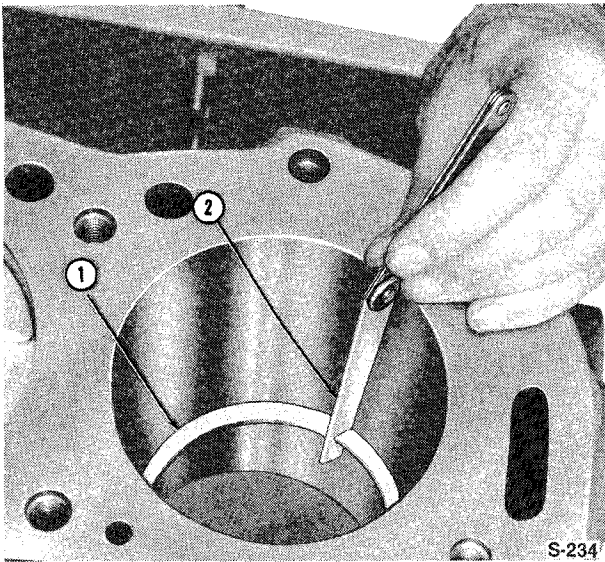

Figure 48
4. Check the piston ring for minimum end gap clearance prior to assembly, in the relevant cylinder, Figure 48.